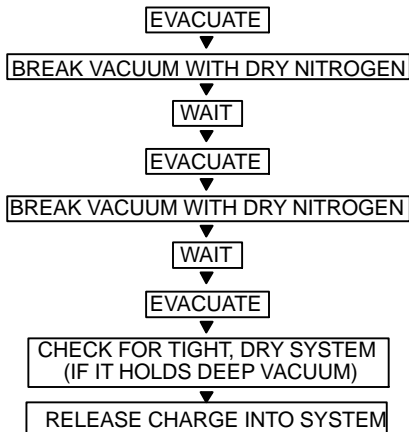

Fig. 17 – Triple Evacuation Method
Refer to Fig. 17 and proceed as follows:
5. Repeat this procedure as indicated in Fig. 17. The system will then be free of any contaminants and water vapor.